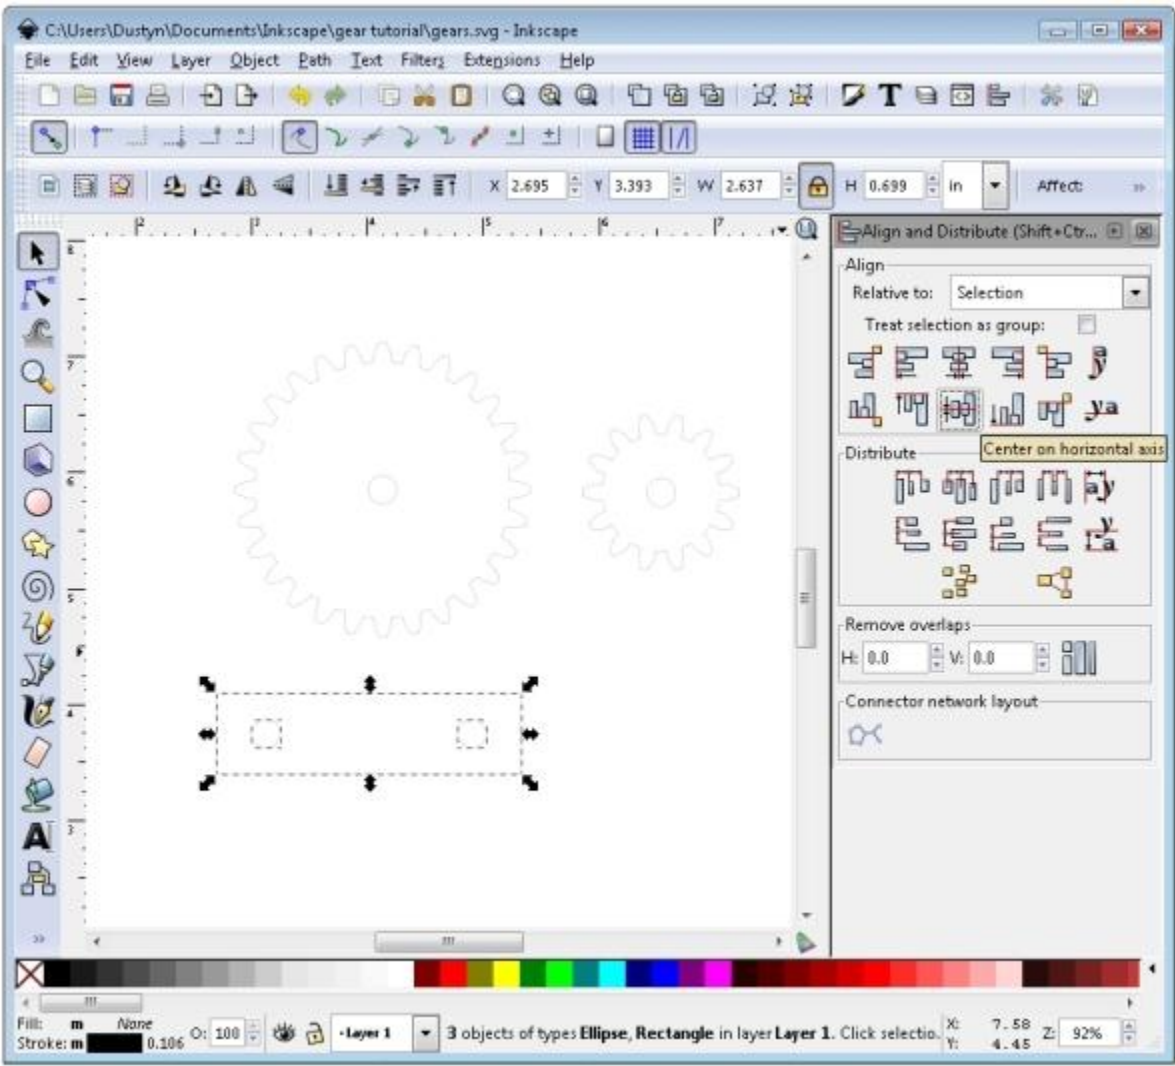

Figure 8
4. Now draw a rectangle around the two circles to complete the base. Align the rectangle with the two circles as shown in Figure 8.